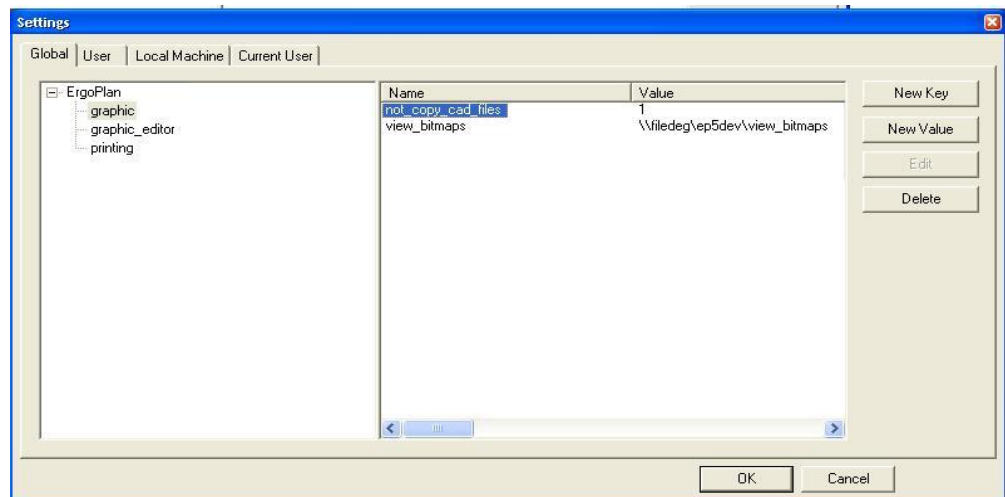

Figure 169: Settings to not Copy the Geometry of Resources
- 2) Set graphic/not_copy_cad_files value to 1. Please refer to the Figure 169.